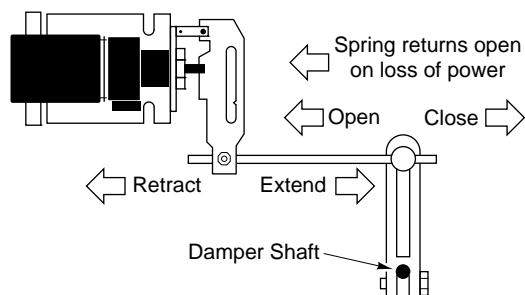
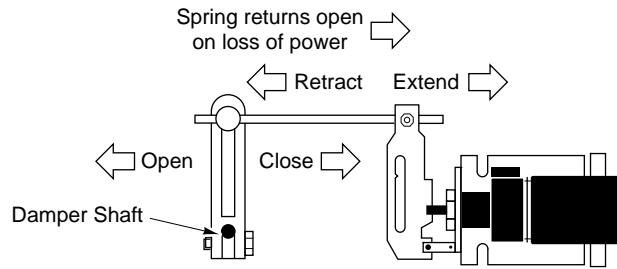

Figure-14 Dampers Open When Actuator Retracts
Figure-15 Dampers Open When Actuator Extends
- Determine, from the system requirements, if the damper should spring-return to the open position (Figure-14 ) or closed position (Figure-15 ) whenever power is lost to the actuator. An actuator is normally linked so as to retract (spring-return) to the damper's fully open position (heat position).